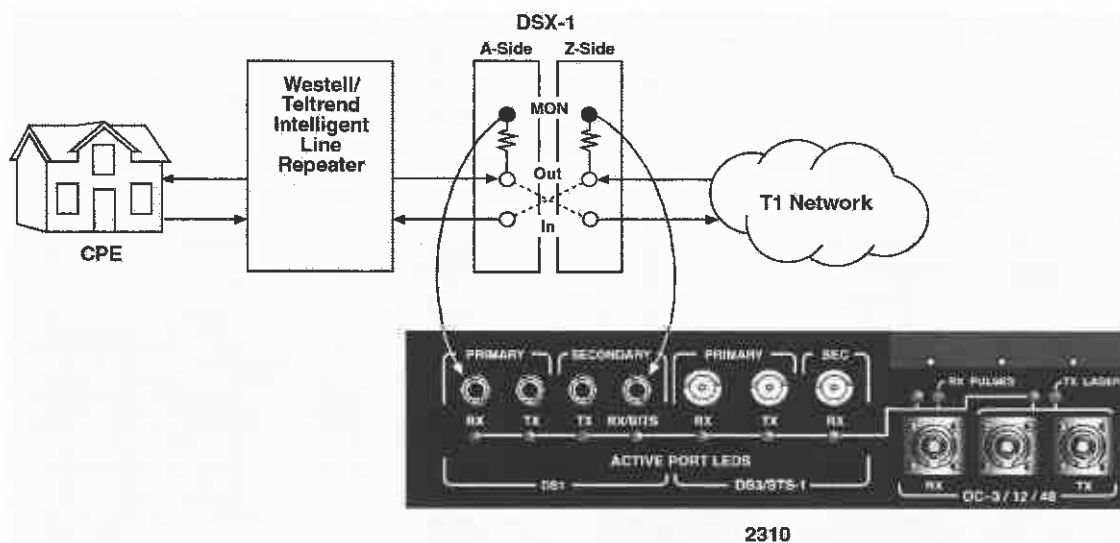

Figure 30 — DS0 (VF) Drop/Monitor test setup
Figure 30 depicts a diagram sample depiction of cable connections from the DSX-1 panel to the inputs on the 2310 for a DS0 (VF) Drop/Monitor test.